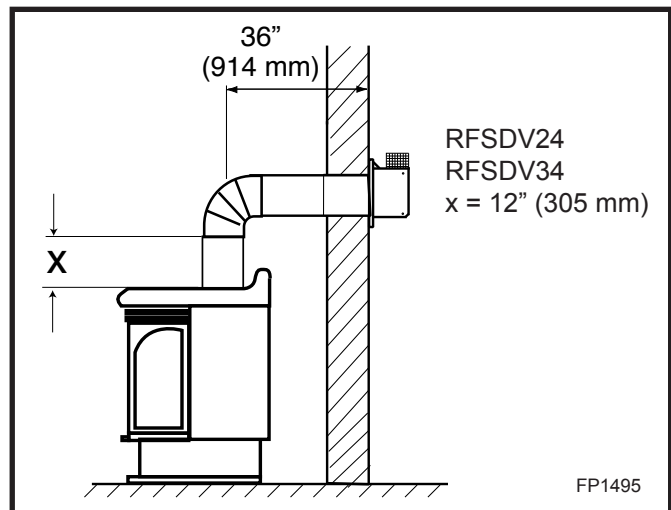

Fig. 9 Maximum horizontal run.
- The maximum number of 90° elbows per side wall installations is three (3).
- For RFSDV24 and RFSDV34 models, the maximum horizontal run for a minimum 12" (305 mm) vertical rise is 3' (914 mm). (Fig. 9)
Example: According to the chart the maximum horizontal vent length is 20' (6 m). However, if a 90° elbow is used in the horizontal vent, maximum horizontal vent length is reduced to 17' (5.2 m). In Figure 9, the total of Dim. A and Dim. B must not exceed 17' (5.2 m).